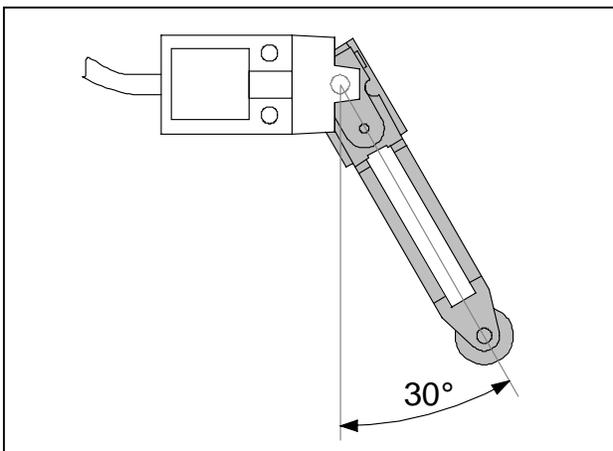

Figure 49: Roller arm position on switch shaft
- 11) Install the roller arm assembly on the shaft with the wheel pointing down. The arm should be biased some 30° towards the front of the coach (see Figure 49). Tighten the Allen bolt to a torque of 30 in.lbf (3.5 Nm).